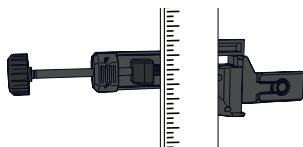

Figure 24
2. Place a grade rod into the opening on the back of the clamp. (Figure 24)